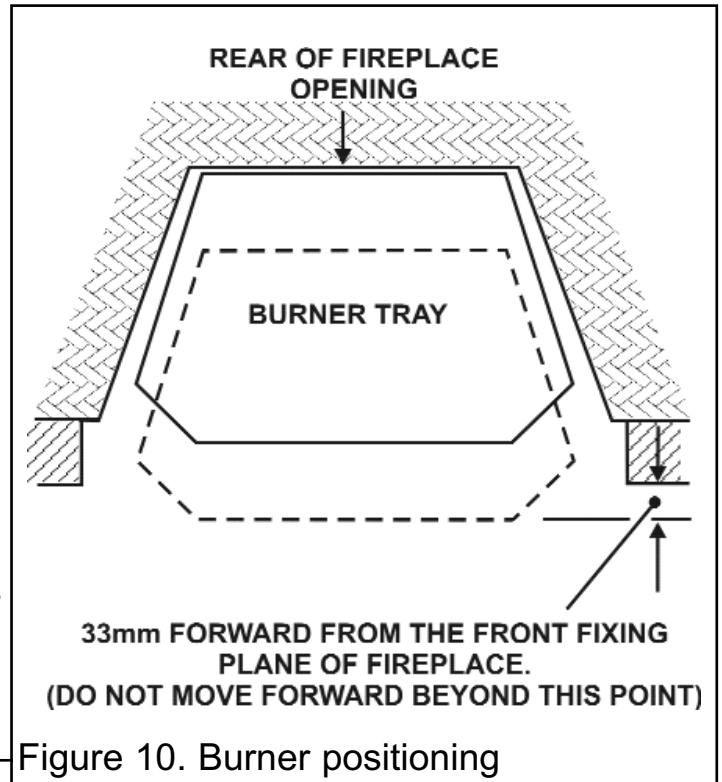

Figure 10. Burner positioning
- Place the burner unit centrally within the fireplace opening. Position the burner to the rear of the opening, this may be moved forward providing the front of the burner tray trim does not protrude beyond the front plane of the fireplace opening by more than 33mm (See figure 10).
- The casting and burner may be moved forward providing the front of the burner tray trim does not protrude beyond the front plane of the fireplace opening by more than 33mm (See figure 10).